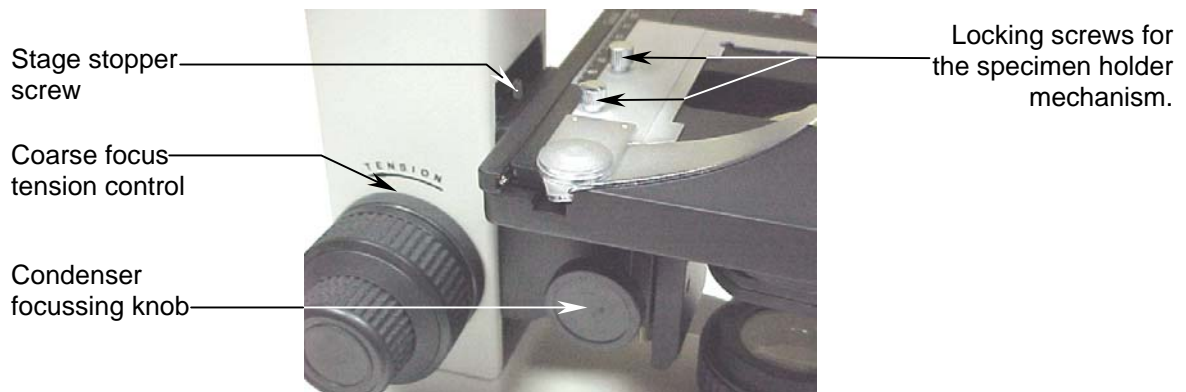

Fig. 1
A. Condenser (10):
- a. Turn the coarse focus knob (16) until the stage (8) is in its highest position.
- b. Turn the focussing knob on the condenser (Fig.1), until the condenser holder reaches its lowest position.
- B. Specimen holder mechanism (6): Turn the coarse focus knob (16) until the stage (8) reaches its lowest position. Unscrew the two locking screws (Fig. 1) of the specimen holder mechanism. Place the mechanism on the stage with the moveable finger pointing upwards (4) so the holes on the mechanism line up with the locking screws. Tighten locking screws firmly.
- C. Objectives (5): Ensure that the revolving nosepiece (3) is well positioned: i.e. that it does not revolve freely, but rotates until a “click” is heard, showing that it is secure in place. Place objectives, starting with the lowest magnification 4X in any of the holes in the revolving nosepiece. Next, place that of the second lowest magnification 10X in the hole alongside, and so forth: the 40X objective, and finally the 100X objective can be placed.
- D. Head (12): Loosen the knurled locking screw on the head (14) and remove the protective cover on the collar where the head is placed. Insert the head, until it is well supported on the stand (15). Although the head can be placed in any position, we recommend for your comfort that the eyepiece tubes (13) face forward on the microscope. Firmly re-tighten the knurled locking screw.
- E. Eyepieces (1): Remove the protective covers on the eyepiece tubes (13). Gently place the eyepieces in the tubes without touching the lens surface.
- F. Filter: Place the blue filter on the illuminator (19). Make sure that the filter is well positioned.
1. Focus on a sample with the 10X objective (5)..
2. Close the field diaphragm (11) turning the ring situated on the illuminator (19), until it appears in the field of vision.
3. Next, focus the field diaphragm, moving the condenser (10) using its focusing control (Fig. 1). Do not use the coarse (16) or the fine focus control knobs (17).